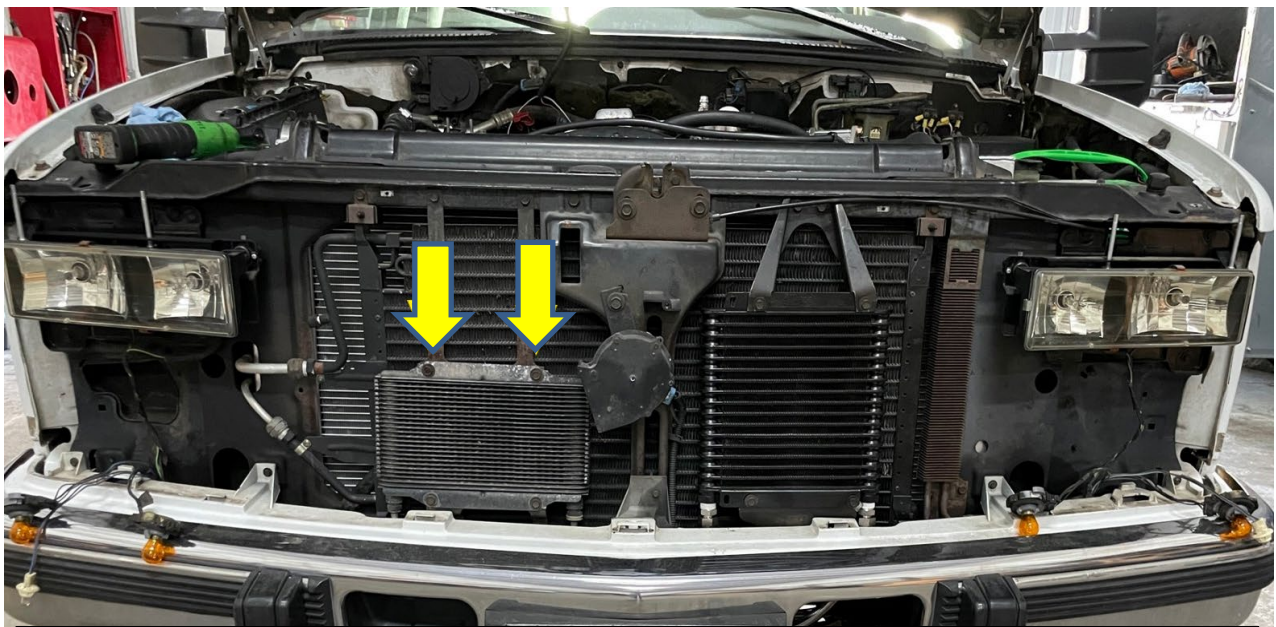
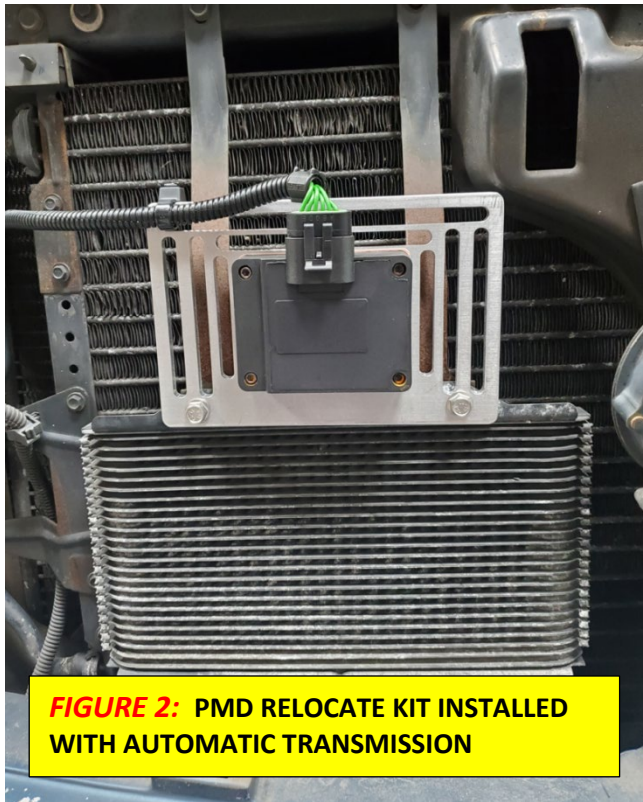

FIGURE 1: LOCATION FOR MOUNTING BOLTS WHEN INSTALLING ON AUTOMATIC TRANSMISSION
FIGURE 2: PMD RELOCATE KIT INSTALLED WITH AUTOMATIC TRANSMISSION
Step 2: (AUTOMATIC TRANSMISSION) **SEE FIGURE 1** Locate the transmission cooler and remove the top mounting bolts. (Yellow Arrows). Using the new stainless steel mounting bolts in the new kit, install the Dieselsite PMD aluminum isolation plate with the PMD mounted. **SEE FIGURE 2**